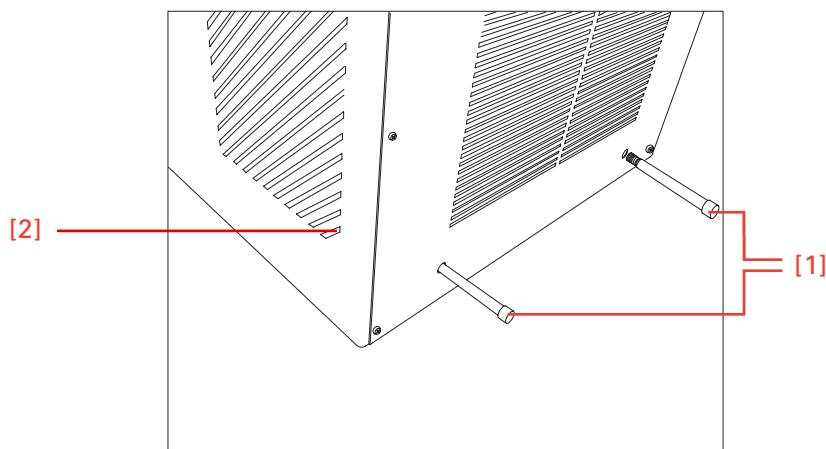

Figure 6a. Installing the distance bolts.
- the distance between wall and rear panel is approx. 15 cm. For this, install the distance bolts (fig. 6a.1).
- the suction areas on either side are kept free (fig. 6a.2).